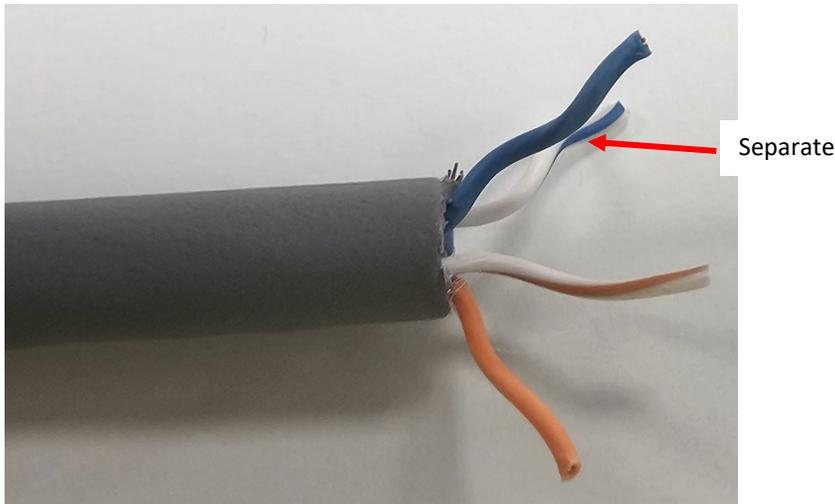

Figure 6
- [5] Separate twisted pairs in wire bundle (Figure 6).